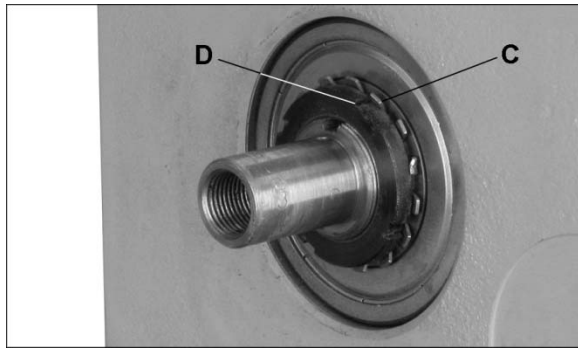

Figure 32
The spindle bearing has been set at the factory for general turning applications. There should be no "end play" or looseness along the spindle's axis. If any looseness should ever occur, it may be rectified by carefully tightening the bearing lock nut on the spindle, as follows. (See Figure 32).
2. Use a screwdriver to carefully bend back any tabs on the tabbed lock washer (C, Figure 32) that interfere with the insets on the bearing lock nut (D).
3. Place the end of a flat head screwdriver down against one of the insets of the bearing lock nut (D).
4. Tap the handle of the screwdriver with a mallet so that it turns the bearing lock nut (D) tighter in a clockwise direction. Rotate the bearing lock nut only about 1/16" at a time.
2. Loosen lock handle (A) and lift up handle (B) to raise motor.
3. Tighten lock handle (A) to hold motor in raised position. Slip belt off pulleys.
4. Loosen two set screws on handwheel (F) with a hex key, and pull handwheel off headstock spindle.
5. Loosen and remove bearing lock nut and tabbed lock washer (C/D, Figure 32).
9. Slide spindle back into place, install tabbed lock washer, and bearing lock nut (C/D, Figure 32). Check for any spindle play at this point (See section 9.13, "Checking Spindle Play").